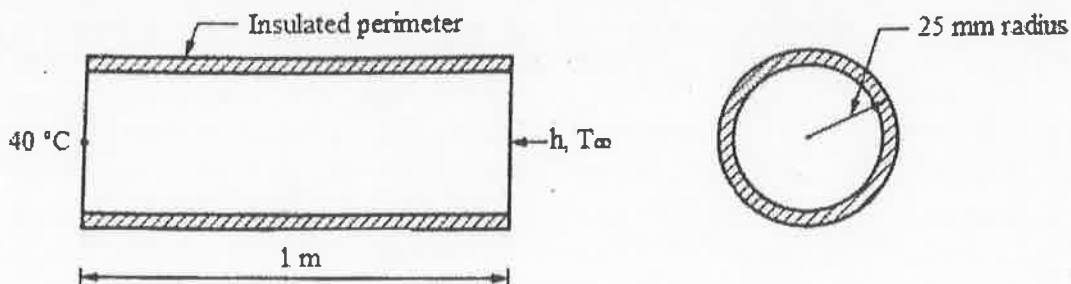

Figure. 8
16. (a) Determine the temperature distribution along the length of the rod (at $L/4$, $L/2$, $3L/4$ and L) as shown in Figure 8. The rod with radius of 25 mm is insulated at the perimeter. The left end has a constant temperature of 40°C and a free stream temperature T_∞ is -10°C . Let $k=35 \text{ W/m}^\circ\text{C}$ and $h=55 \text{ W/m}^2 \text{ }^\circ\text{C}$.